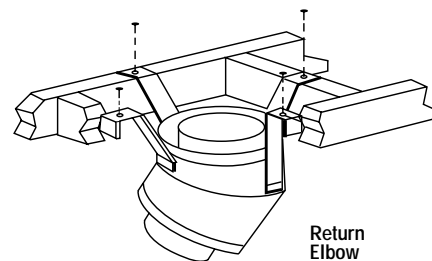

Figure 42
**Step 5.** Secure support straps to framing members by nailing under tension in shear (Figure 42).